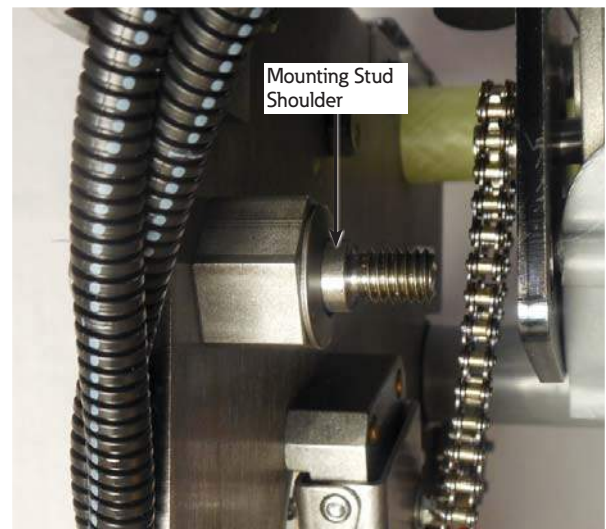

Figure 14. Belleville washer on the motor mounting stud
Make sure that the mounting hole in the motor mounting bracket is fully seated on the shoulder of the mounting stud. If it is not fully seated, the chain may bind and fall off. See Figure 14 and Figure 15.
14. Move the motor assembly into position with the motor chain adjustment screw bumper located on top of the adjustment bracket and the motor pivot stud inserted through the mounting hole in the motor mounting plate. Secure the motor mounting plate to the motor pivot stud with the locknut removed in Step 6. Refer to Figure 14 and Figure 15. Tighten the nut snugly, but not tightly.